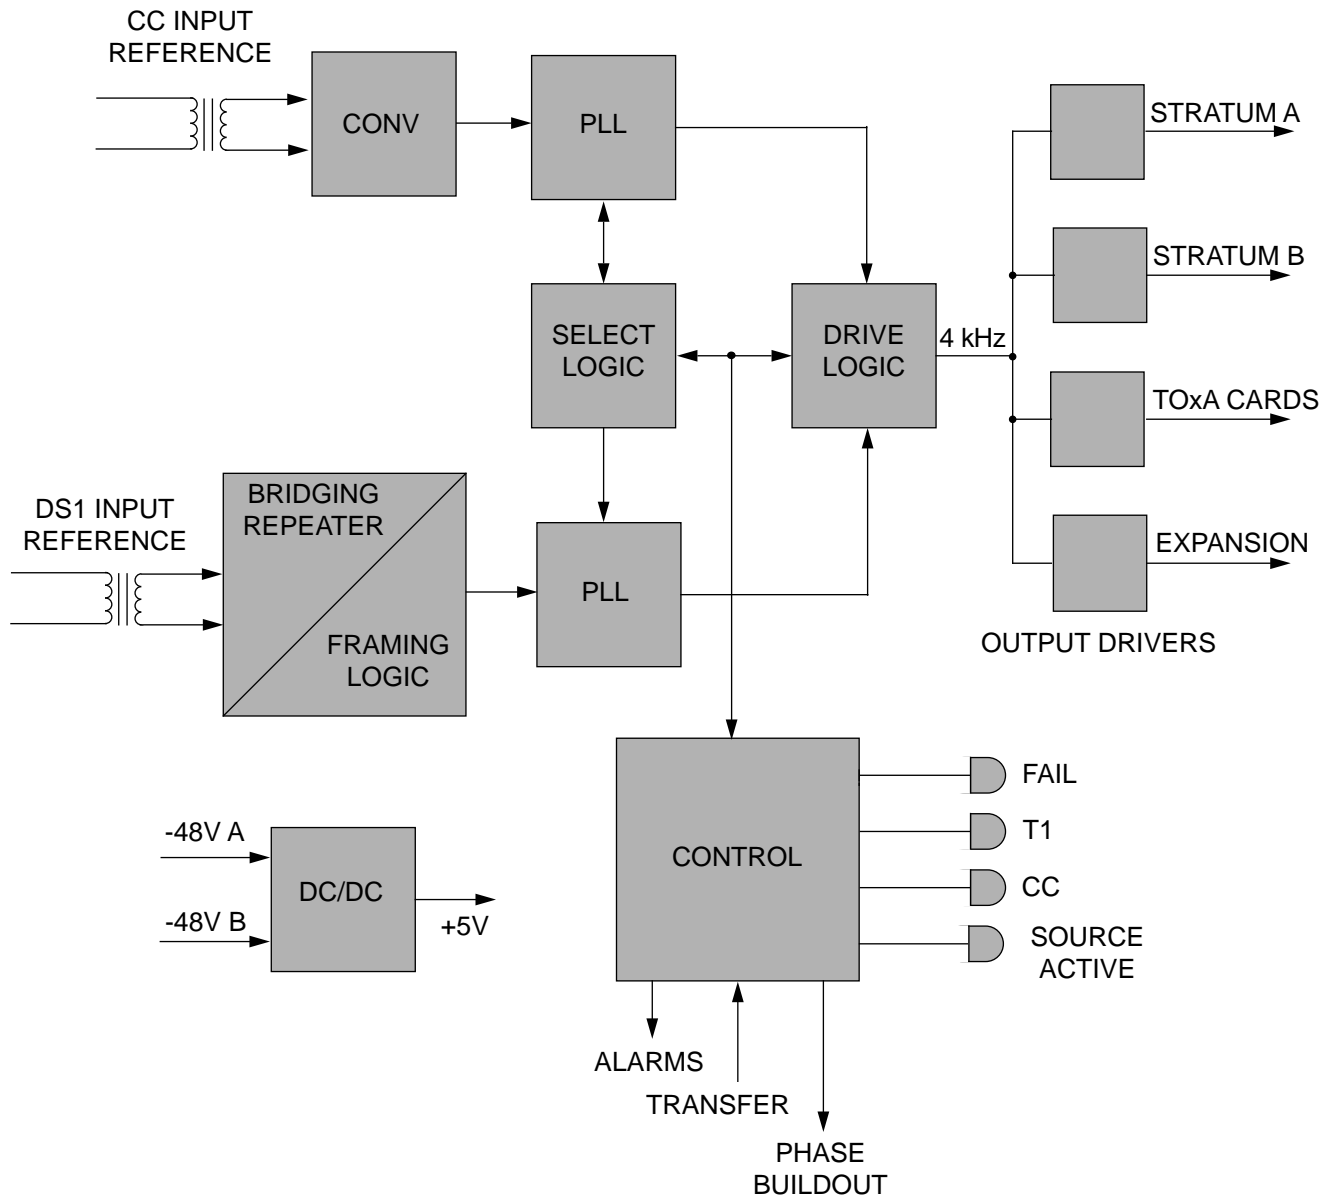

Figure 9. CI Card Block Diagram
4.09 Two CI cards provide input signal redundancy. Each CI card uses one CC or DS1 input as its timing reference, as shown in Figure 9. A switch on the CI card selects the type of input and the framing format (if DS1) of the input timing signal. Front panel lamps (CC and DS1) show which type of input is selected.